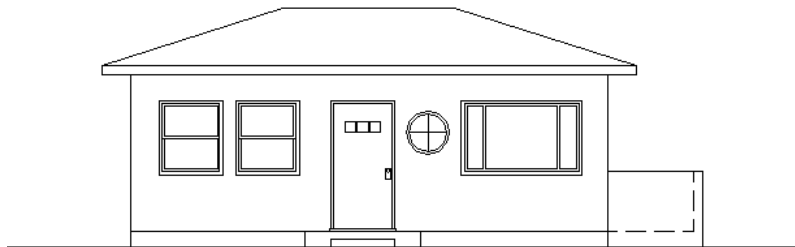

FIGURE 8.18: The front elevation with detail added
1. Try zooming in and adding detail to the windows and door, and place an extra step leading to the front step. Figure 8.18 shows an example. Yours can be different.